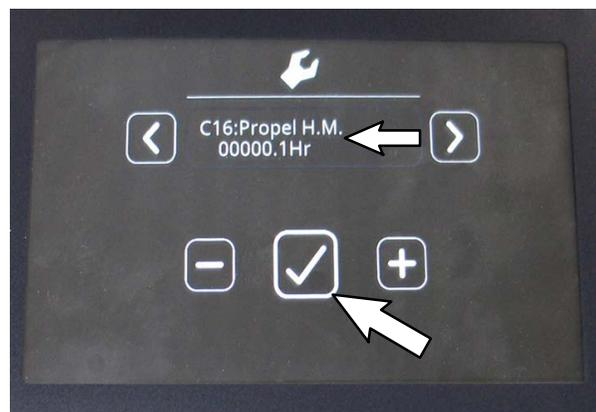

FIG. 30
5. Use the left arrow button and right arrow button to scroll to the C16: Propel H.M.. Press the Check Mark button to access the C16: Propel H.M. log in. (Fig. 30)